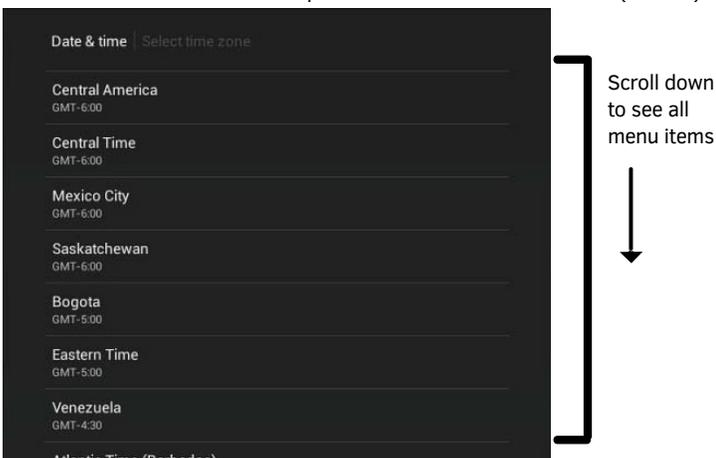

**FIG. 81** NTP Server window
2. Press **Custom** to open the *NTP Server* window (FIG. 81):